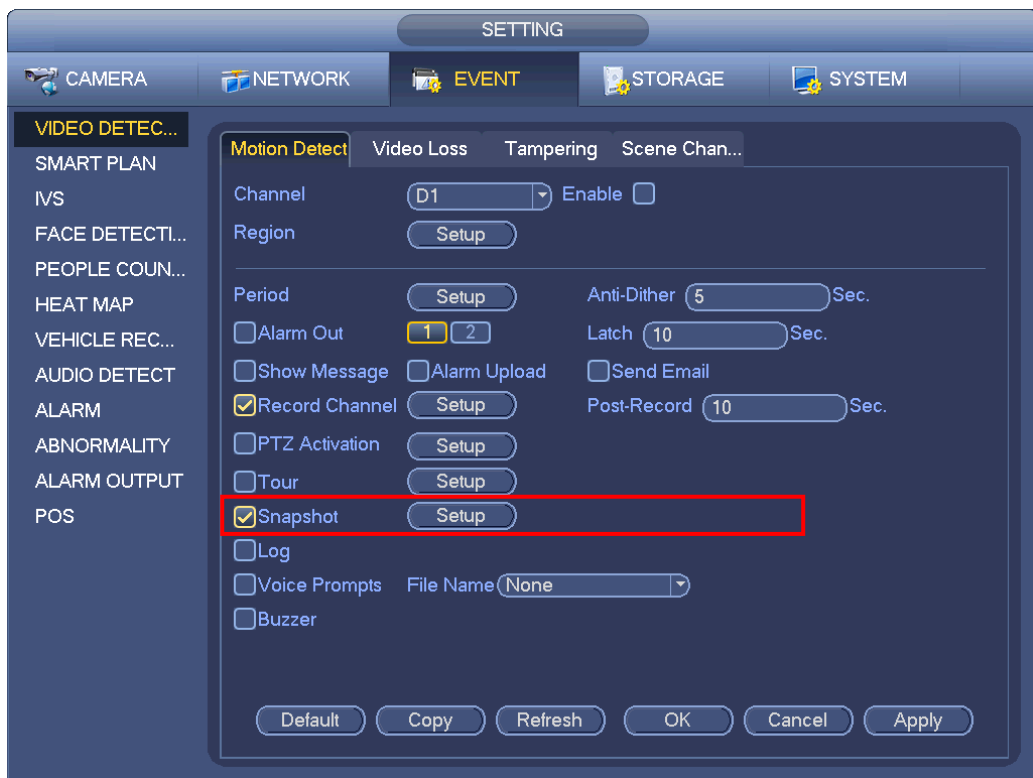

Figure 4-31
- When the record type is MD (motion detect), alarm, MD&Alarm, IVS and POS, please enable the channel snapshot function when corresponding alarm occurs. For example, when the alarm type is MD, from main menu->Setting->Event->Video Detect->Motion Detect, please select the snapshot channel and enable snapshot function. See Figure 4-31.